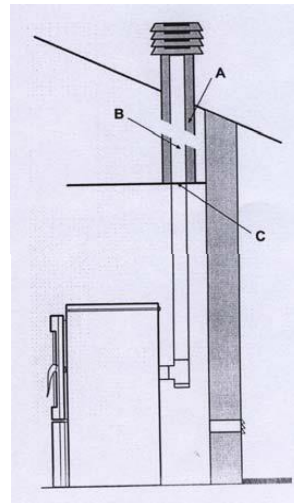

Figure 5
- Avoid any contact with easily combustible material (such as wooden beams), and in any case these should be insulated with fire resistant material (see Figure 5).